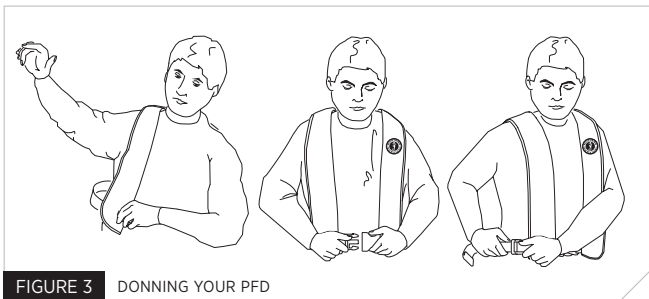

FIGURE 3 DONNING YOUR PFD
2. Put the PFD on just like a jacket and fasten the front buckle (Fig. 3).
3. Adjust the waist belt for a snug fit using the side buckle on the belt (Fig. 3).